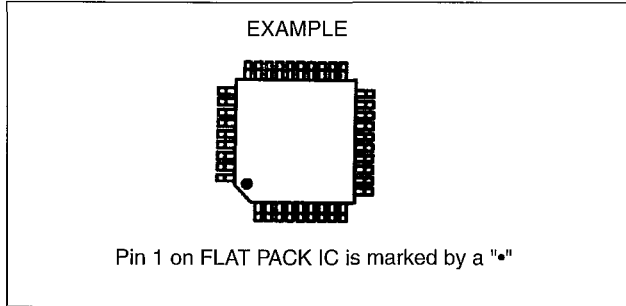

Fig 2-9
b. The "•" mark on the Flat Pack IC indicates pin 1. Make sure this mark matches the 1 on the P.C.B. when positioning for installation. Then pre-solder the four corners of the Flat Pack IC (see Fig 2-9).